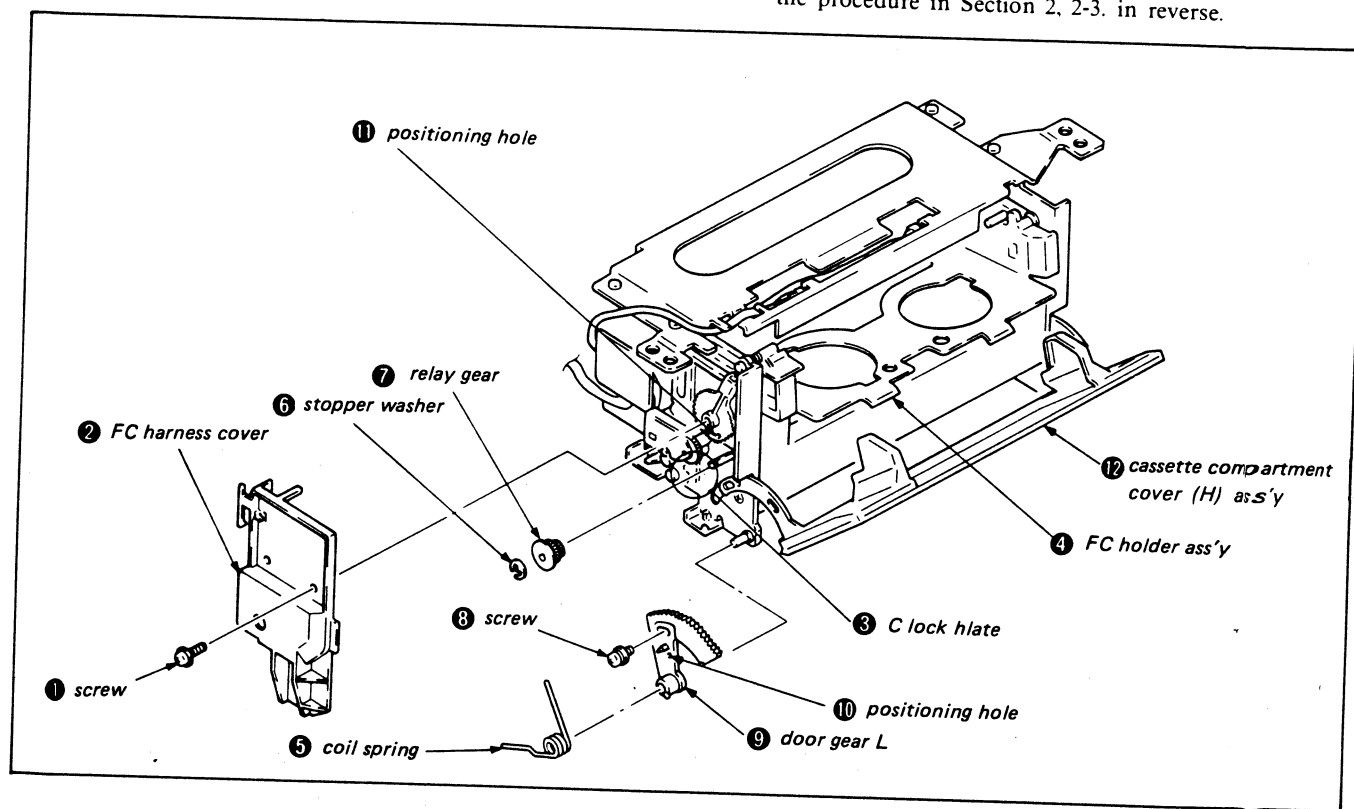

Fig. 3-59.
- 5) Remove stopper washer ⑥ and relay gear ⑦.
- 6) Remove screw ⑧ and replace door gear L ⑨.
- 7) Insert a thin rod into door gear L ⑨ positioning hole ⑩ and drive gear L positioning hole ⑪.
- 8) Engage the relay gear ⑦ with both gears and mount stopper washer ⑥.
- 9) Temporarily tighten screw ⑧.
- 11) Close cassette compartment cover (H) assembly ⑫ and confirm that the FC holder assembly ④ locks.
- 12) Insert a finger between the cassette compartment cover (H) assembly ⑫ and FC side plate L ⑬ so that they are parallel, and tighten screw ⑧.
- 13) Mount coil spring ⑤.
- 14) Mount FC harness cover ② and tighten screw ①.
- 15) Release C lock plate ③ and confirm that the FC holder assembly ④ comes up and cassette compartment cover (H) assembly ⑫ opens. Also, confirm that the FC holder assembly ④ goes down and locks when the cassette compartment cover (H) assembly ⑫ is closed. (Fig. 3-59)